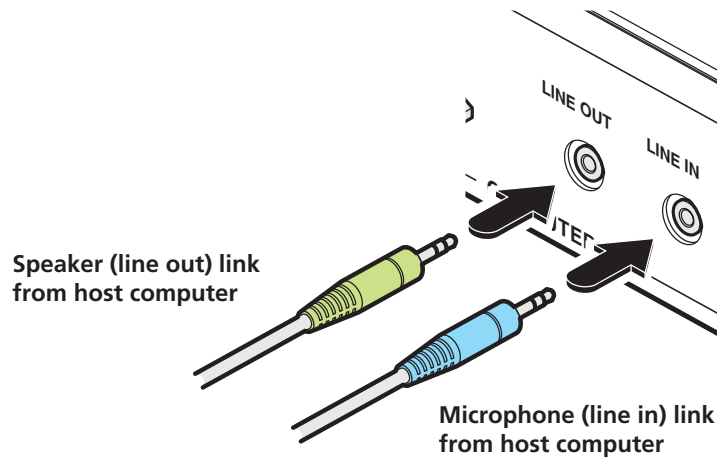

Figure 3-4. Connect the speaker and microphone cables to audio sockets.
- 1 Connect an audio link cable between the **IN** socket on the Local unit rear panel and the speaker output socket of the host computer. See Figure 3-4.